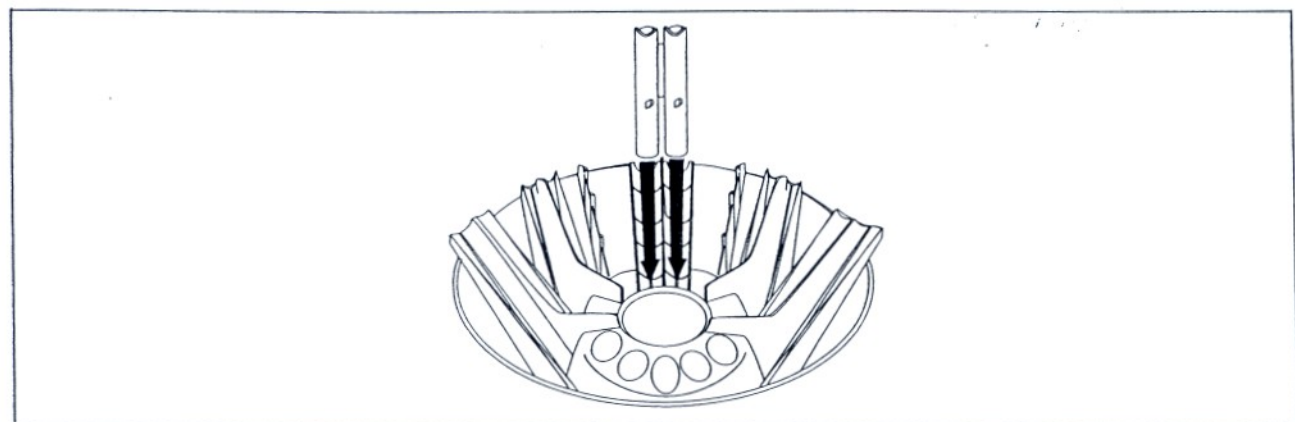

Figure 16. Tube Adaptors Loaded in Rotor
- 7 ml. tubes must be loaded into adaptors without inserts before being positioned in the rotor (See Figure 16)